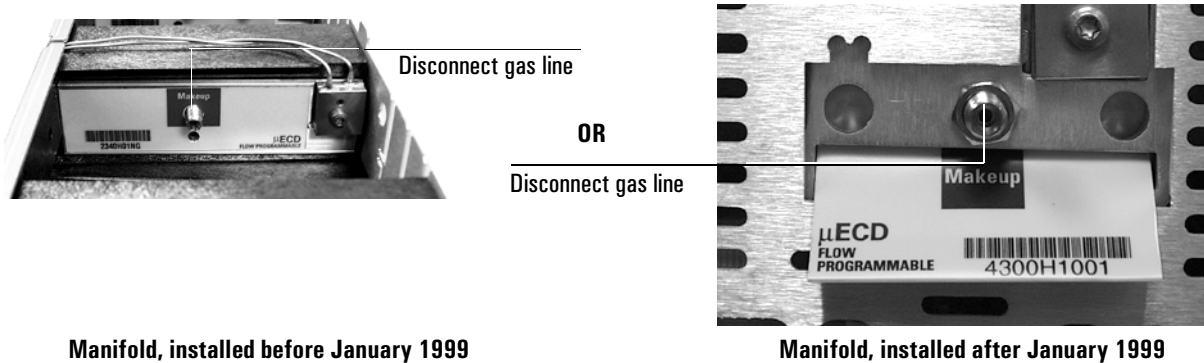

Figure 3 Remove the gas connection
2. Remove the gas supply tubing from the present manifold. See Figure 3.